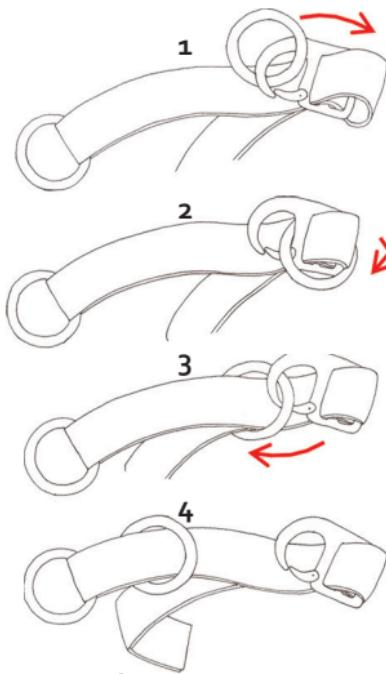

Fig. 11
- Continue as shown in Fig. 11, 1–4.